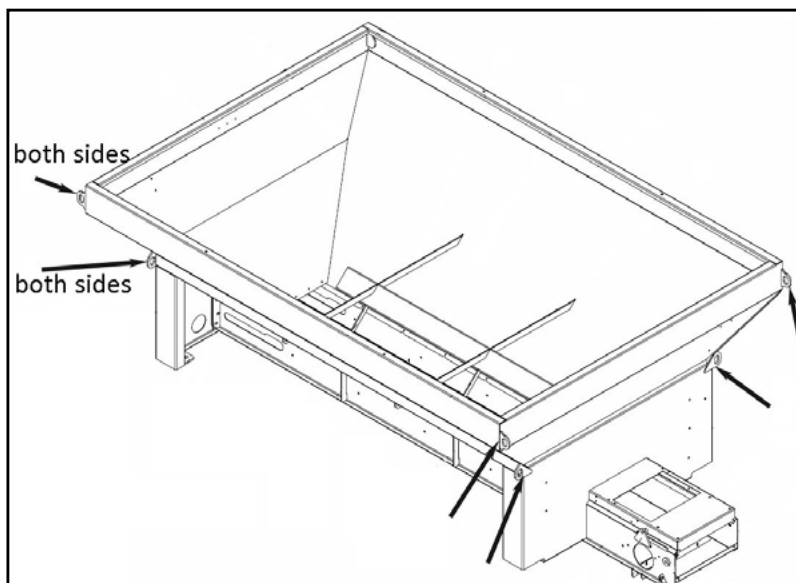

Figure 7 - Securing Hook Locations
1. Secure spreader to chassis and dump body using the securing hooks located on the top and sides of the spreader as shown in Figure 7.